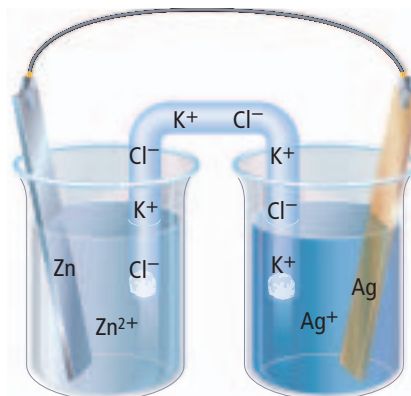

Figure 20.25
42. Figure 20.25 illustrates a voltaic cell consisting of a strip of zinc in a 1.0M solution of zinc nitrate and a strip of silver in a 1.0M solution of silver nitrate. Use the diagram and Table 20.1 to answer these questions.